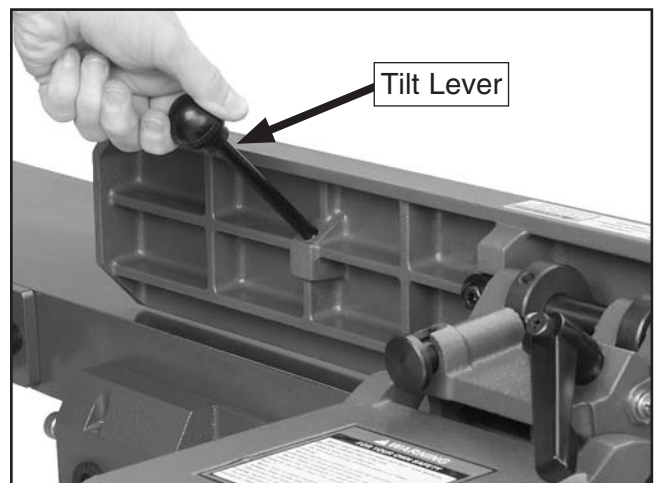

Figure 20. Installing the fence tilt lever.
22. Install the fence tilt lever as shown in **Figure 20**.